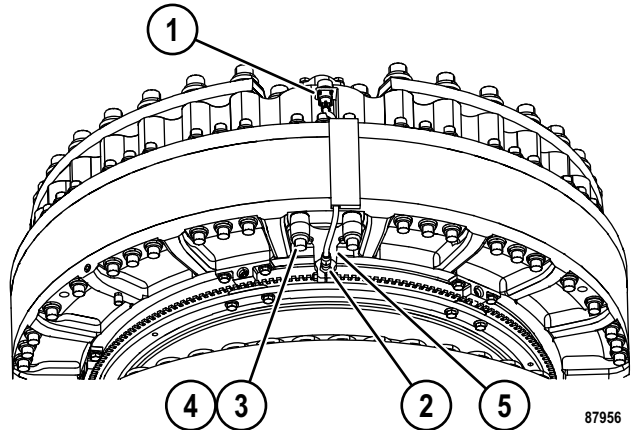

FIGURE 50-66. WHEEL SPEED SENSOR REMOVAL
4. Disconnect the wheel speed sensor from cable bracket (1, Figure 50-66). Loosen capscrews (3) and flat washers (4), then remove wheel speed sensor (2) from sensor bracket (5).